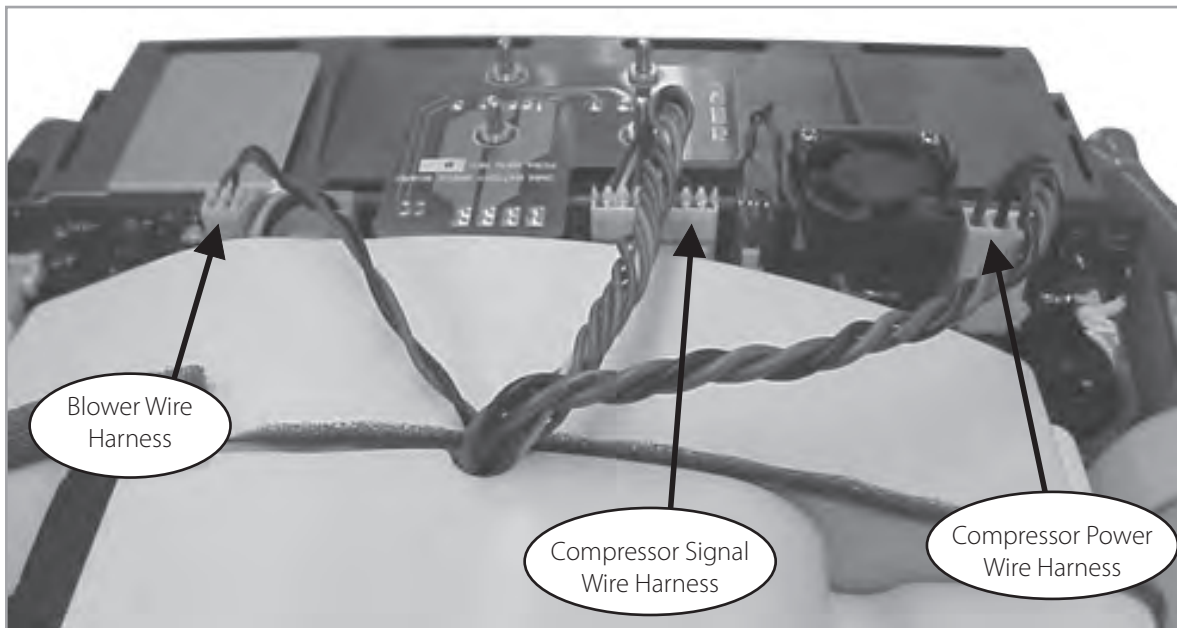

Figure 72: Compressor Box electrical connections.
3. Disconnect the 3 wire harnesses shown in Figure 72.
13. Plug the 3 harnesses into the Power Manager PCB as shown on Figure 72.